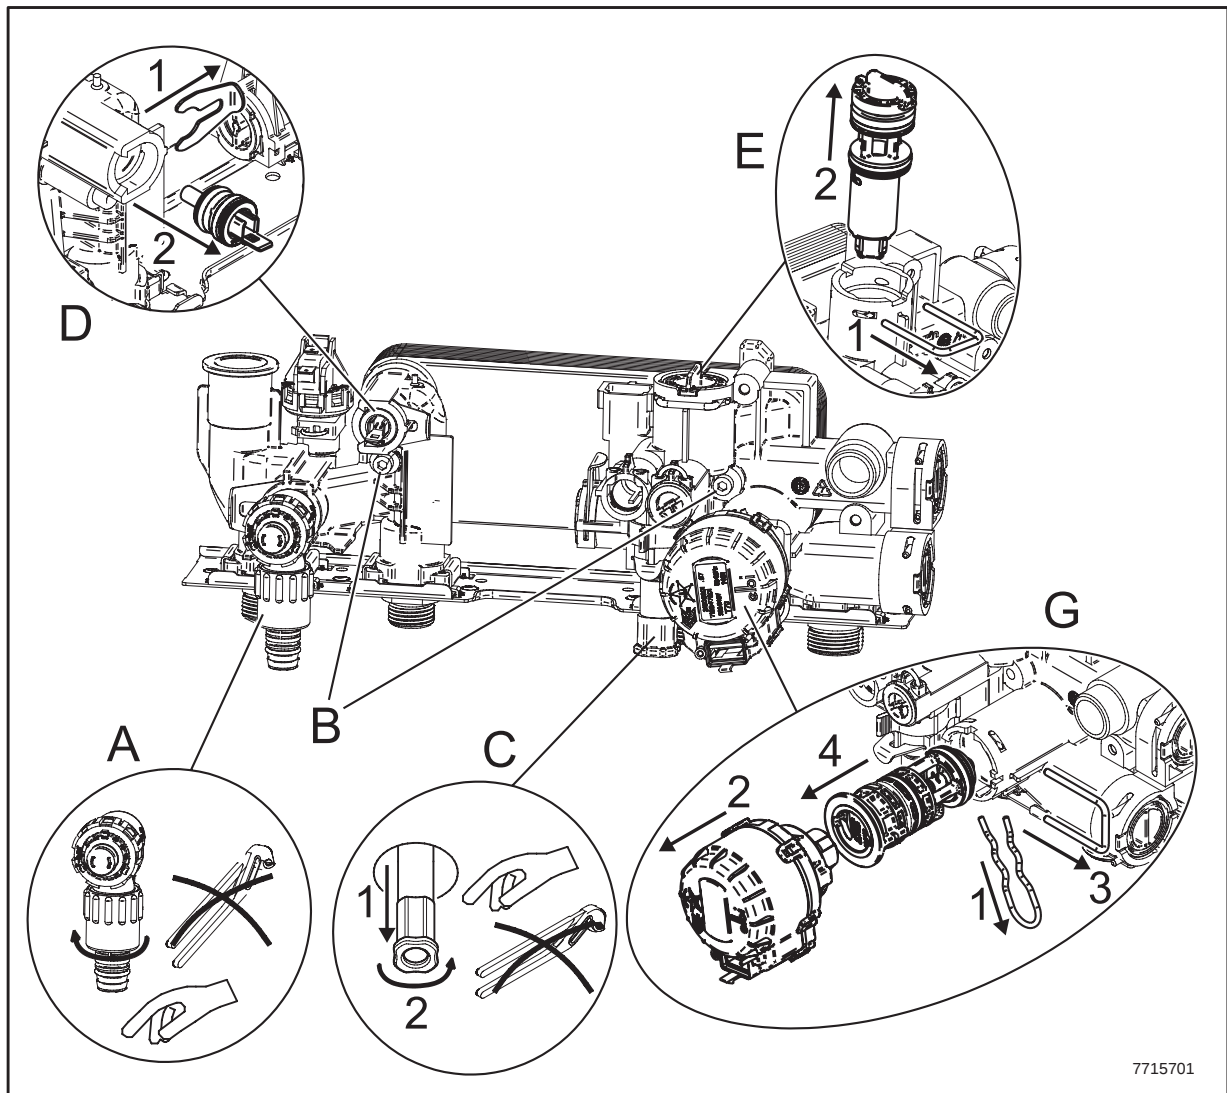

Figure 16
The DHW filter is housed in a special removable cartridge and is positioned on the cold water inlet (E) (figure 16). To clean the filter, proceed as described below:
- Remove the clip 1E in figure 16;
- Remove the filter (2E figure 16);